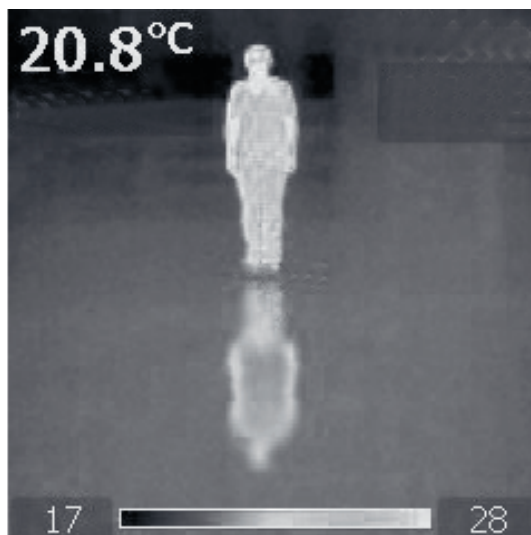

Figure 3: Thermal image of a person and their reflection on the ground
- Reflections on reflecting surfaces (figure 3)